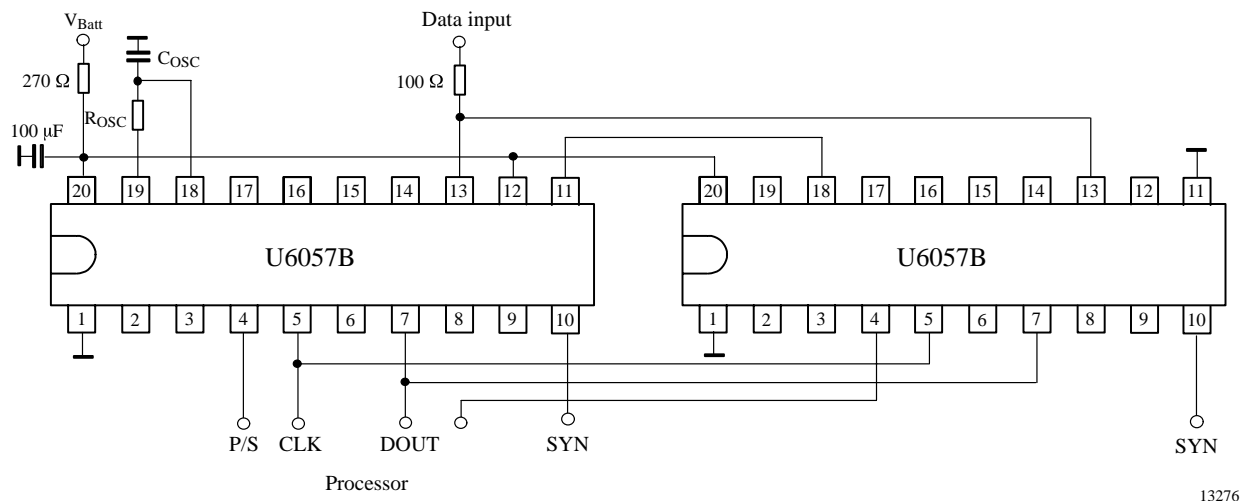

Figure 5. Master – slave operation, read-out: 2×8 bit, supplied with 12-V battery
- CLK and DOUT are always connected in parallel. Each shift register can be read-out individually by a separate P/S line (see figure 5).